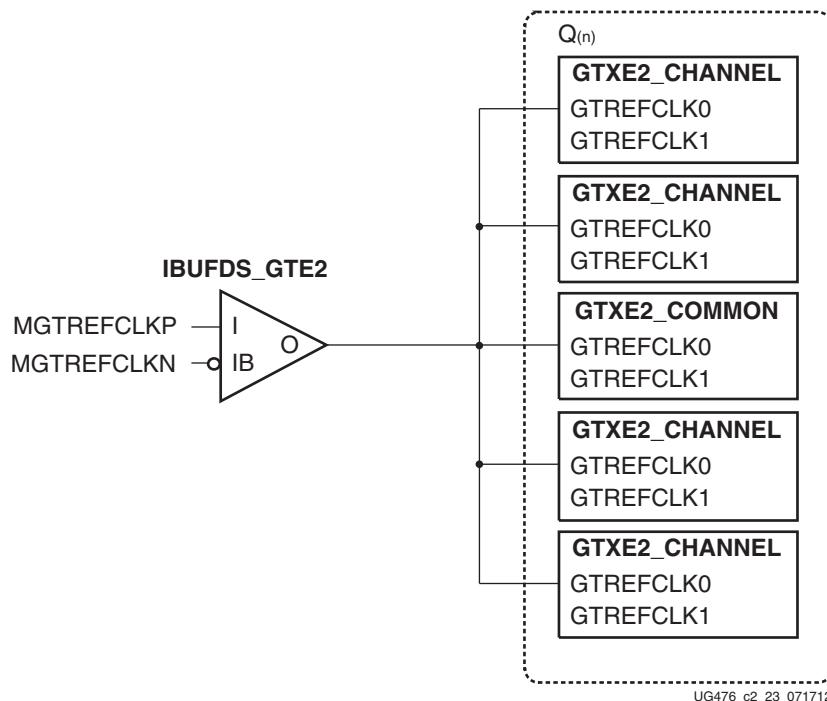

Figure 2-5: Single External Reference Clock with Multiple Transceivers in a Single Quad
Figure 2-5 shows a single external reference clock connected to multiple transceivers within a single Quad. The user design connects the IBUFDS_GTE2 output (O) to the GTREFCLK0 ports of the GTXE2_COMMON and GTXE2_CHANNEL primitives for the GTX transceiver, and GTHE2_COMMON and GTHE2_CHANNEL primitives for the GTH transceiver.
Note: The IBUFDS_GTE2 diagram in Figure 2-5 is a simplification. The output port ODIV2 is left floating, and the input port CEB is set to logic 0.